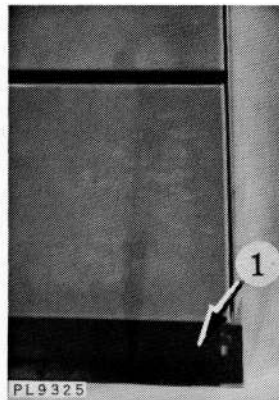

Fig. 25
1. Remove kickboard (1, Fig. 25) and lower front panel (1, Fig. 11).